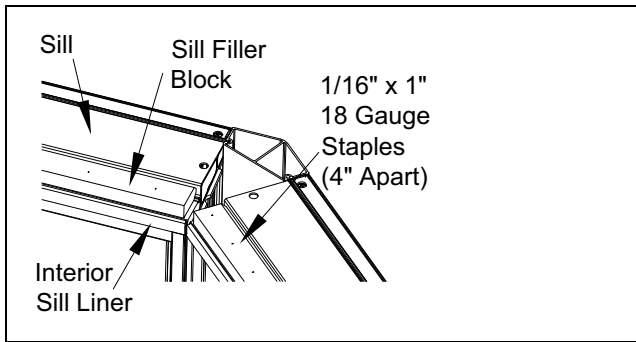

Figure 8
5. Turn muller assembly over to expose sills. Remove shipping blocks from sill of each unit. Measure, cut, and apply sill filler blocks to full length of sill on each unit flush with interior face. Attach with 3/16" x 1" 18 gauge staples spaced 4" (102) apart. See Figure 8.